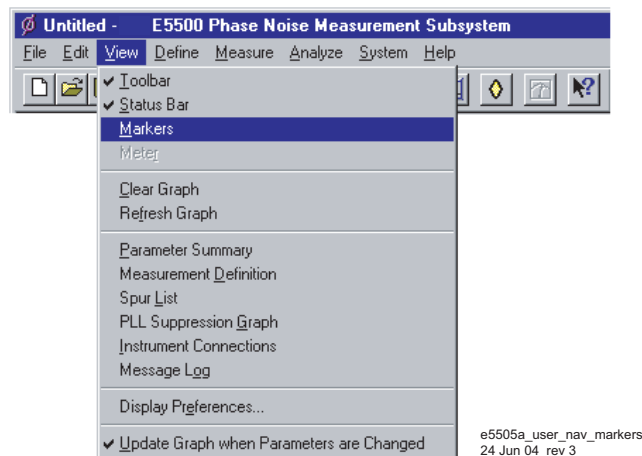

Figure 264 Navigate to marker
- 1 On the **View** menu, click **Markers**. See Figure 264.